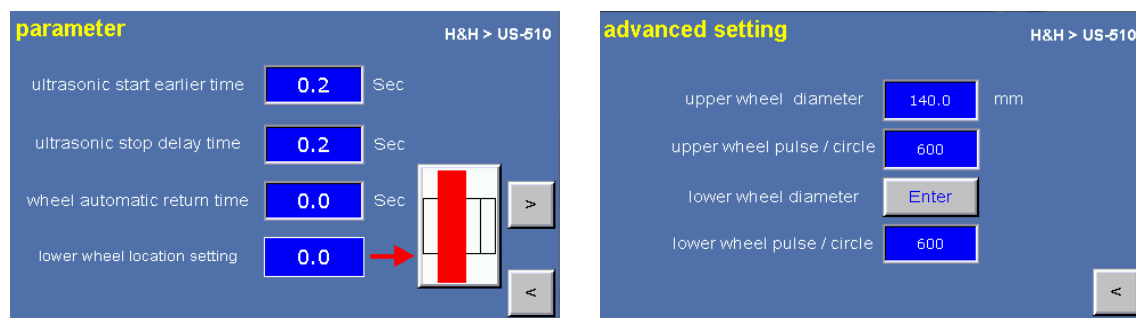

Fig. 1
7. The control center internal parameter setting is the factory value parameter (shown in Figure 1)